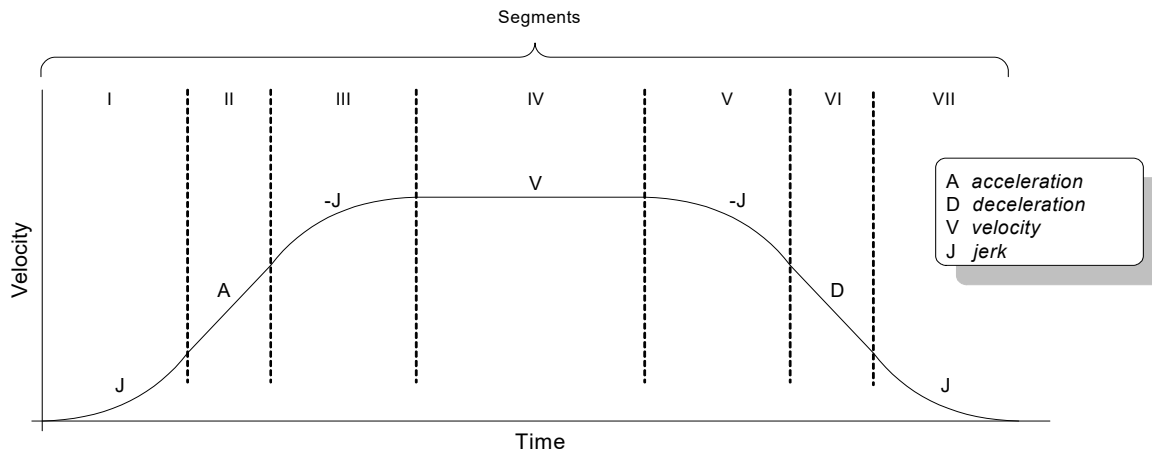

Figure 4-5:
Figure 4-5 shows a typical S-curve profile. In Segment I, the S-curve profile drives the axis at the specified jerk (J) until the maximum acceleration (A) is reached. The axis continues to accelerate linearly (jerk = 0) through Segment II. The profile then applies the negative value of the jerk to reduce acceleration to 0 during Segment III. The axis is now at maximum velocity (V), at which it continues through Segment IV. The profile will then decelerate in a manner similar to the acceleration stage, using the jerk value first to reach the maximum deceleration (D) and then to bring the axis to a halt at the destination.
An S-curve profile might not contain all of the segments shown in Figure 4-5. For example, if the maximum acceleration cannot be reached before the “halfway” point to or from the velocity, the profile would not contain a Segment II or a Segment VI. Such a profile is shown in Figure 4-6.